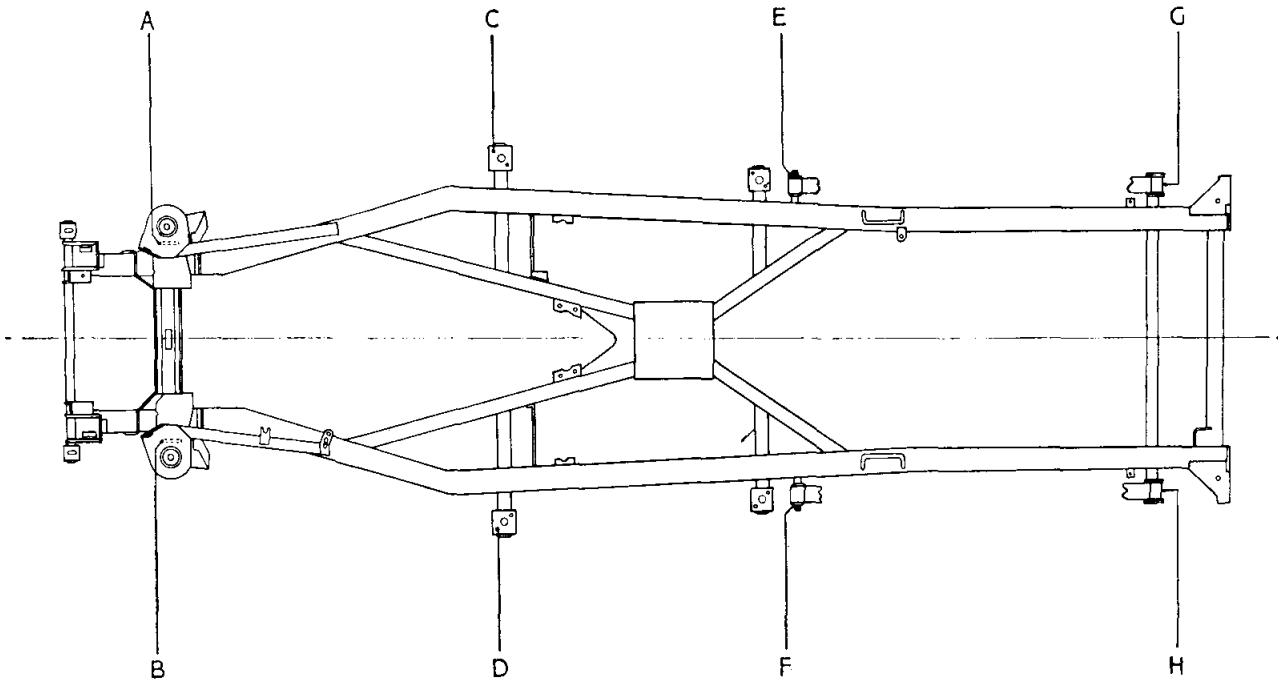

Fig. 3 Illustrating the eight points of the chassis which are generated on the floor below.
- (e) Through the lower bolt hole pass the plumb bob cord from front to rear. Mark the floor directly under the plumb bob pointer. This operation is repeated on the other side of the chassis frame and so creates points A and B (Fig. 3).
- (g) Pass the plumb bob cord from below through the bolt hole. Mark the floor immediately below the plumb bob pointer. The operation is repeated on the other side and so creates points C and D (Fig. 3).
- (i) Pass the cord of the plumb bob over the fulcrum pin in such a manner that the bob hangs in front of the pin. Mark the floor immediately below the plumb bob pointer. This operation is repeated on the other side of the chassis and creates the points E and F (Fig. 3).
- (j) Thread the cord of the plumb bob from the rear and through the lower jig hole in the rear road spring shackle bracket. Mark the floor immediately below the plumb bob pointer. This operation, when repeated on the other side of the chassis frame, creates points G and H (Fig. 3).